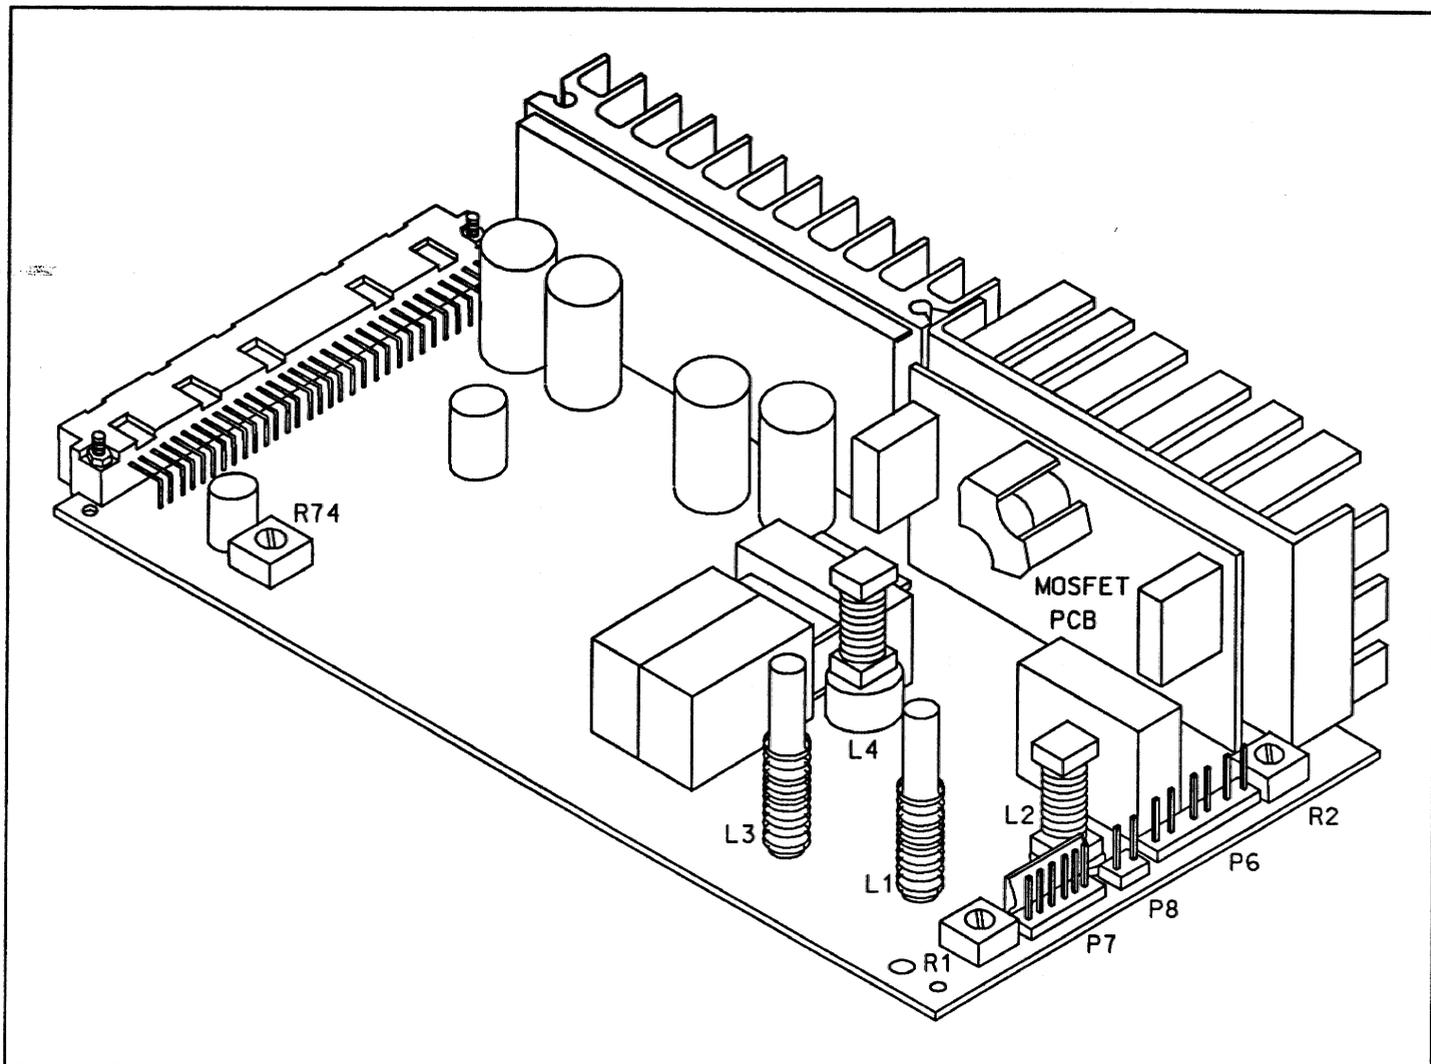

FIGURE 7-2. The Power Deflection Module
a) Locate trimpot R2 on each Power Deflection module. See Figure 7-2.